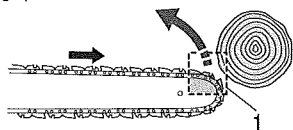

Fig. 1
WARNINGS! Kickback may occur when the nose or tip of the guide bar (kickback zone (1)) touches an object, or when the wood closes in and pinches the saw chain in the cut. Tip contact in some cases may cause a lightning-fast reverse reaction, kicking the guide bar up and back toward the operator. Pinching the saw chain along the top of the guide bar may push the guide bar rapidly back toward the operator. Either of these reactions may cause you to lose control of the saw, which could result in serious personal injury. Do not rely exclusively upon the safety devices built into your saw. As a chain saw user, you should take several steps to keep your cutting jobs free from accident or injury. (Fig.1)